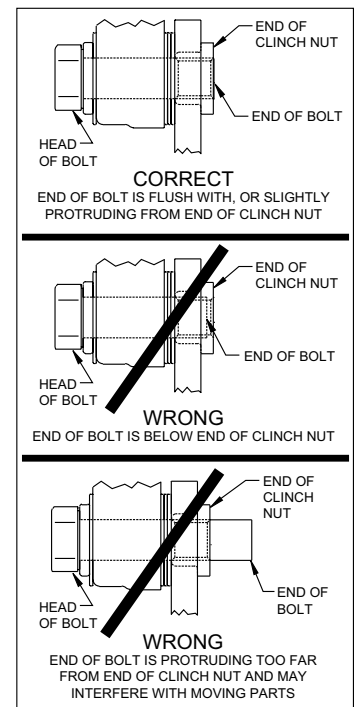

Figure 3.
CAUTION: All mounting bolts must fully engage clinch nuts. Be sure to check that all bolts are either flush or protruding through flanged side of clinch nut after shimming, Figure 3.
•**NOTE:** Please reference the caution statement at the beginning of the assembly instructions. Mount the caliper (18) onto the caliper bracket (1) using two bolts (20), two washers (19) and four washers (21). Finger tighten. View the rotor (11) through the top of the caliper (18). The rotor (11) should be aligned in the center of the caliper (18). If not, loosen the two bolts (20) and adjust the caliper (18) by using 0.032 inch thick shim washers (22). The shim washers (22) should be placed between the caliper (18) and the flat washers (21). Finger tighten and recheck alignment. Add as many shim washers (22) as necessary to achieve the correct alignment. **NOTE:** The end of the bolt must be flush with or slightly protruding from the head of the clinch nut. See Figure 3. Place spare shims (22) between washer and caliper mounting ear to achieve the proper mounting fastener configuration. Always use the same amount of shims on both the top and bottom caliper mounting bolts (20). Loosen the two bolts (20) and apply red *Loctite*® 271 to bolt threads (20) and torque to 40 ft-lb.
•Install the disc brake pads (23) and secure using cotter pin (24).